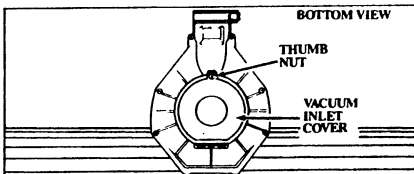

Figure 5
2. Set the unit on a flat surface as shown in Figure 5, and unthread the Thumb Nut holding the Vacuum Inlet Cover closed.